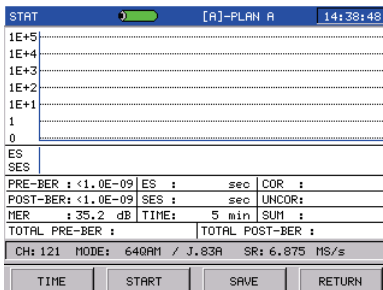

Figure3-2-7
**BER(F4):** Press BER soft key to Statistics interface as Figure 3-2-7.
In Figure3-2-7, press **F1** (TIME) to set the Statistical time which is from 1 minute to 1440minutes.